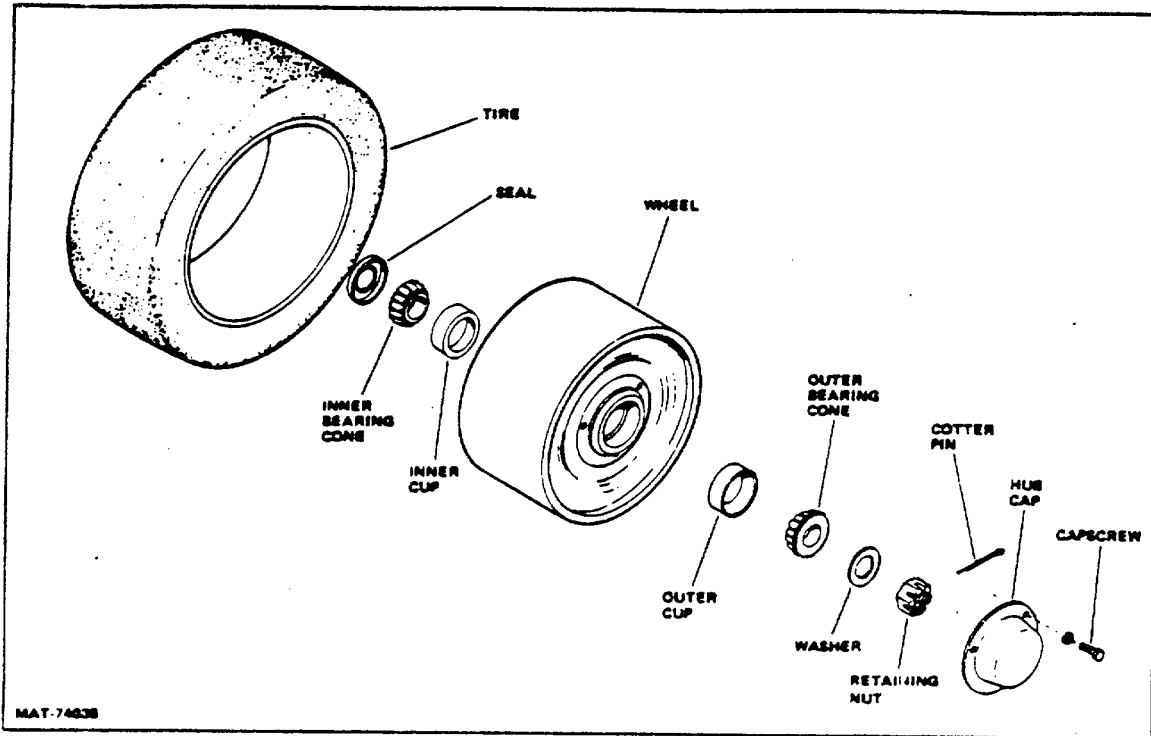

Figure 1-3. Steer Wheel Assembly
3. Remove outer bearing cone (Fig 1-3) from wheel and carefully remove steer wheel from spindle.